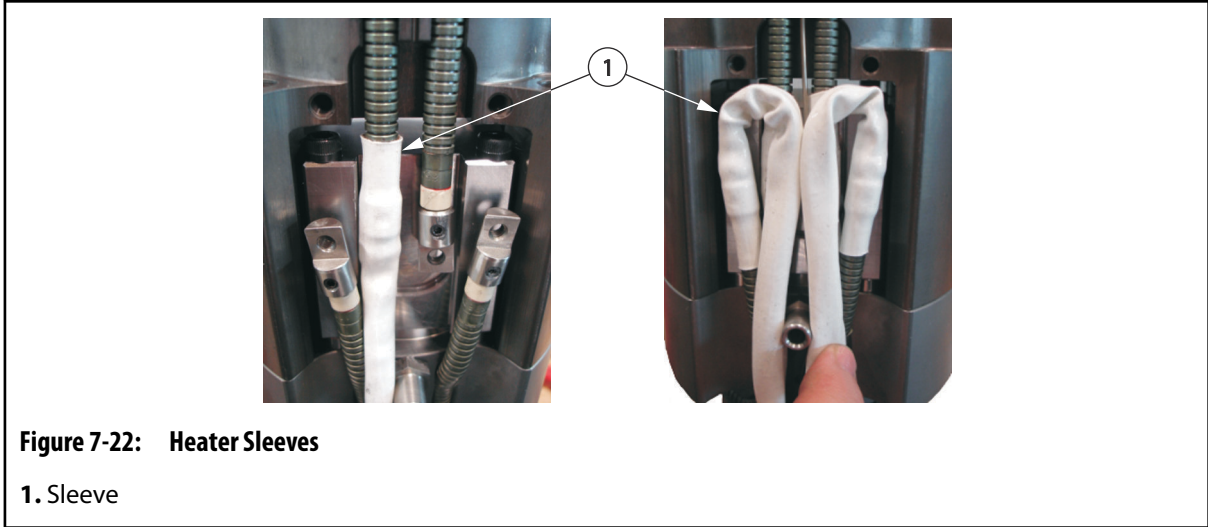

Figure 7-22: Heater Sleeves
17. Position the heater leads as shown in Figure 7-22.